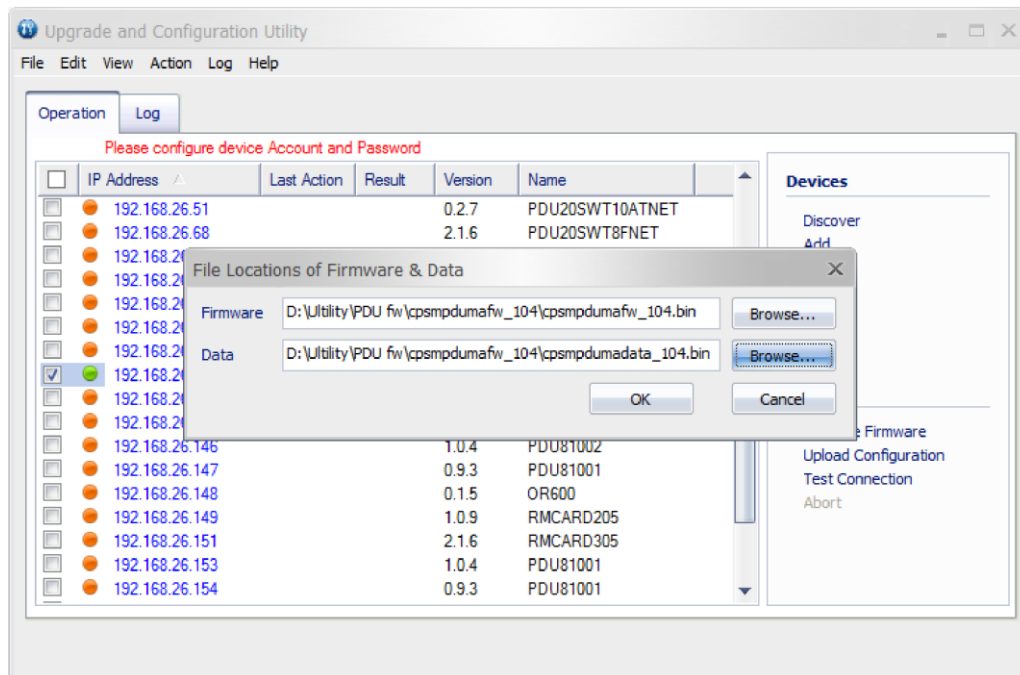

Figure 4.
7. Click **Browse** button and select the firmware file path in **Firmware** field (shown in Figure 4.).